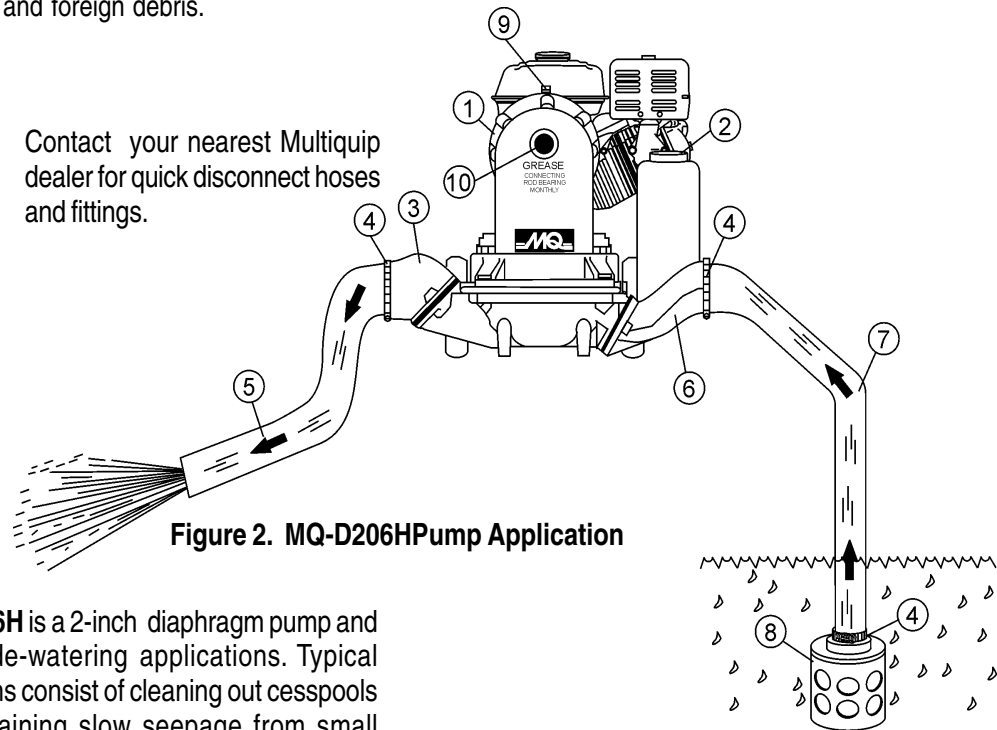

Figure 2. MQ-D206HPump Application
Figure 2 shows a typical application using the MQ-D206H diaphragm pump. Please note that this pump is intended for the removal of clean water and water containing some debris and solids. Maximum size of solids should not exceed 1 inch (25 mm) in diameter. **DO NOT** set strainer on bottom of water bed. Placing the strainer above the water bed will prevent the pump from drawing in excessive amounts of sand and foreign debris.
3. To prime pump, remove fill cap (Figure 2) and fill pump casing with water. If the pump casing is not filled with water before starting, it will not begin pumping.
6. Make sure the **suction strainer** (Figure 2) is clean and securely attached to the water end of the suction hose. The strainer is designed to protect the pump by preventing large objects from being pulled into the pump.
1. Check that all hoses are **securely** attached to the pump. Make certain suction hose (Figure 2) does not have any air leakage. Tighten hose clamps and couplings as required.
4. Check that the **discharge** hose (Figure 2) is not restricted. Place hose so that it lays as straight as it is possible on the ground. Remove any twists or sharp bends from hose which may block the flow of water.